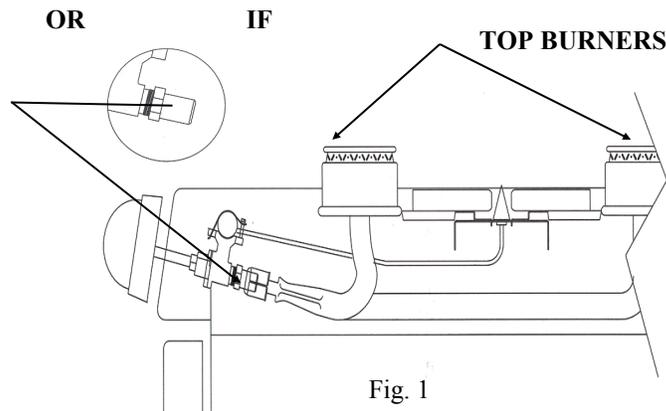

Fig. 1
- Each top burner must be adjusted to the Propane setting. With a 1/2” open end wrench rotate the orifice hood counter-clockwise until it is snug on the valve. The orifice hood is the brass hood on the end of top burner valve. See Fig. 1